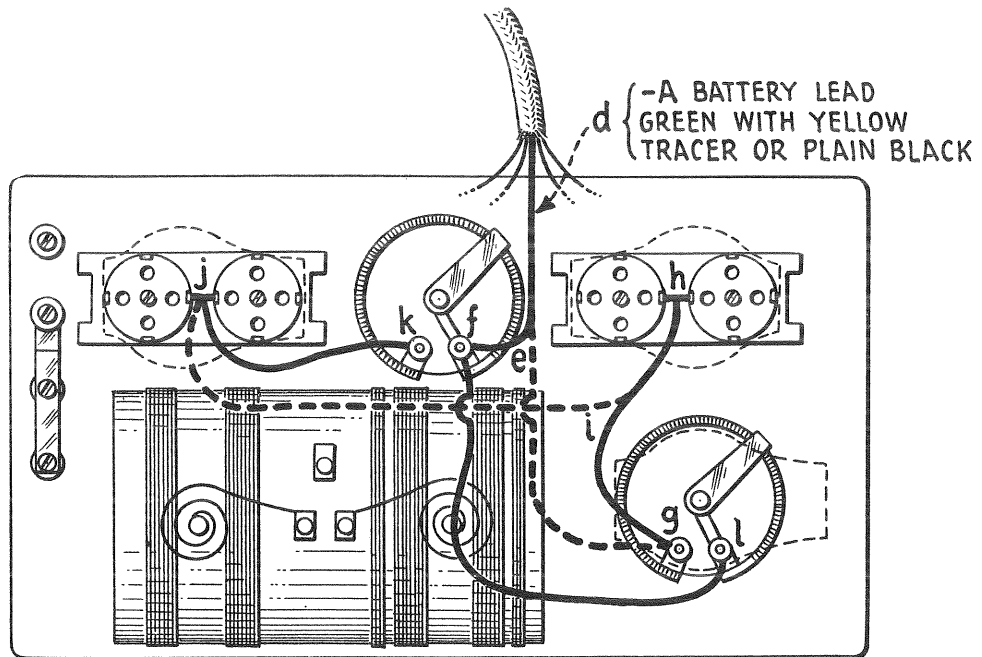

FIGURE 2
Method II: (See Figure 2)
No additional Rheostat is required. Only the controls on the panel are used. Two changes in the wiring by which the rheostats of the Radiola are connected in series, will be required as shown in Figure 2.
To change wiring of Radiola III-A refer to Figure 2 and proceed as follows:
- (1) Remove screws at sides of wooden case. Push several inches of battery cable into case and lift panel.
- (2) Untie strain cord which holds cable to frame of transformer.
- (3) Unsolder black flexible lead "h-i-g" at "g" (fig. 2) and resolder it to "j".
- (4) Without disturbing bus-bar "l-f", unsolder flexible battery cable lead "d-e-f" and resolder to "g" (from which a connection was just removed) thus forming the connection "d-e-g".
- (5) Fasten strain cord to frame of transformer so that the individual cable leads are relieved of possible tension.